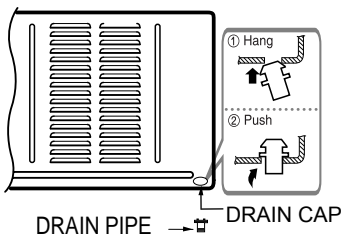

Fig. 4
- 2) After assembling washer and drain pipe, secure the drain pipe to the bottom hole of the base pan. (Fig. 4) Press the drain pipe into the hole by pushing.
- 2) And please secure the drain pipe to the bottom hole of the base pan (Fig. 4) Press the drain pipe into the hole by pushing.